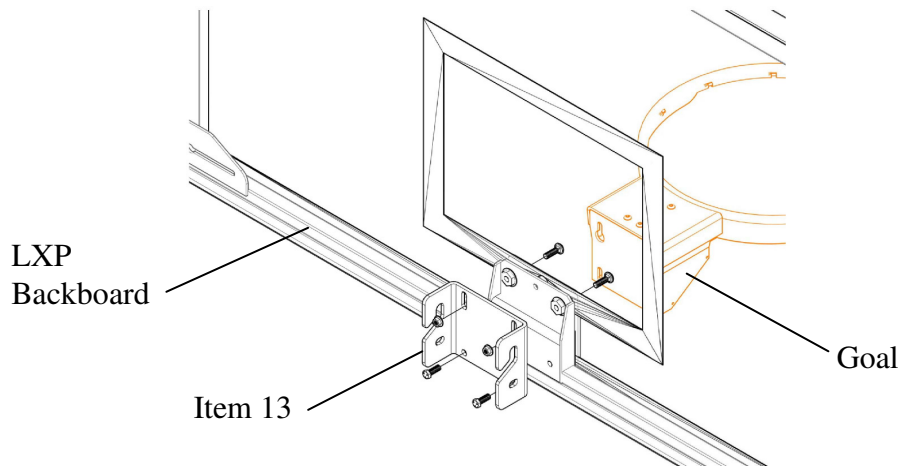

Figure 2
5. Position the Quick Change Backboard Bracket (item 13) to the back of the board and install a 3/8-16 x 1" bolt with lock washer and flat washer in the lower two holes of the mounting plate and into the two tapped insert holes of the LXP backboard as shown in figure 2. Tighten these bolts securely.